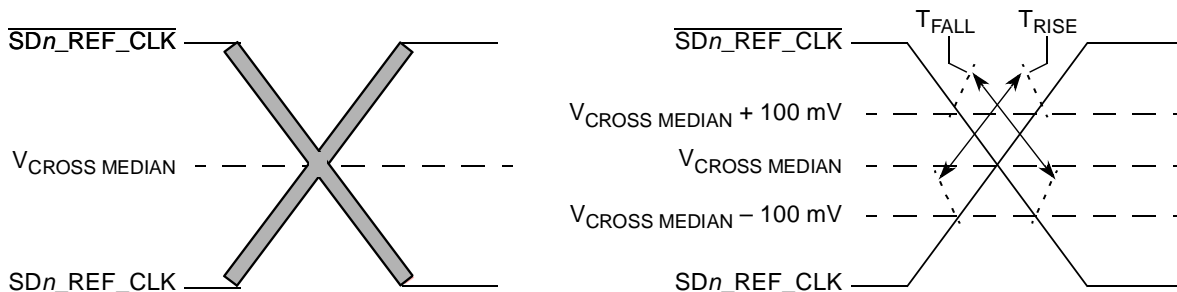

Figure 50. Single-Ended Measurement Points for Rise and Fall Time Matching
4. Matching applies to rising edge rate for SDn_REF_CLK and falling edge rate for SDn_REF_CLK . It is measured using a 200 mV window centered on the median cross point where SDn_REF_CLK rising meets SDn_REF_CLK falling. The median cross point is used to calculate the voltage thresholds the oscilloscope is to use for the edge rate calculations. The rise edge rate of SDn_REF_CLK should be compared to the fall edge rate of SDn_REF_CLK , the maximum allowed difference should not exceed 20% of the slowest edge rate. See Figure 50.